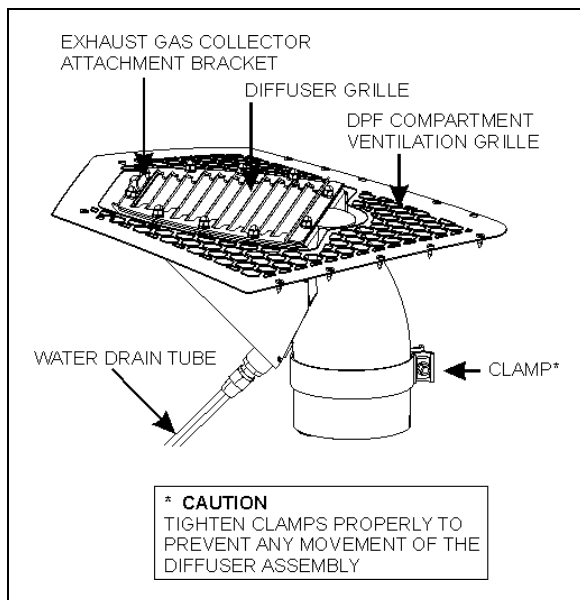
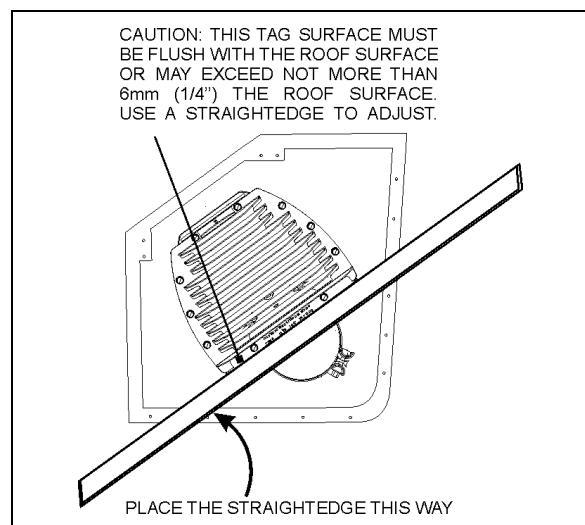

FIGURE 9: DIFFUSER ASSEMBLY
FIGURE 11: DIFFUSER POSITION ADJUSTMENT 04015_2
3. Using a straightedge, adjust the diffuser assembly level. The top surface of the tag fixed on the diffuser grille must be flush with the roof surface (fig.9). It may exceed about 1/4in (6mm). Place the straightedge as shown on figure 11.